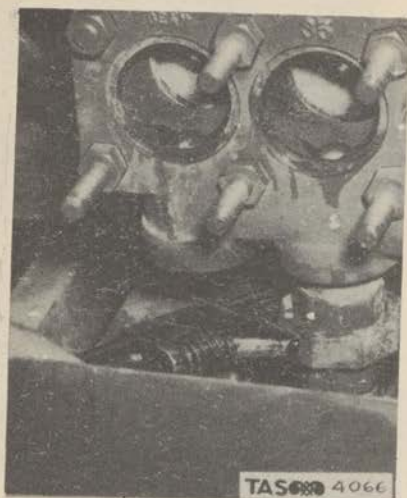

Figure 98. Disconnecting the Intake (Suction) Pipe.
(4) Disconnect the intake (suction) pipe. (Fig. 98)